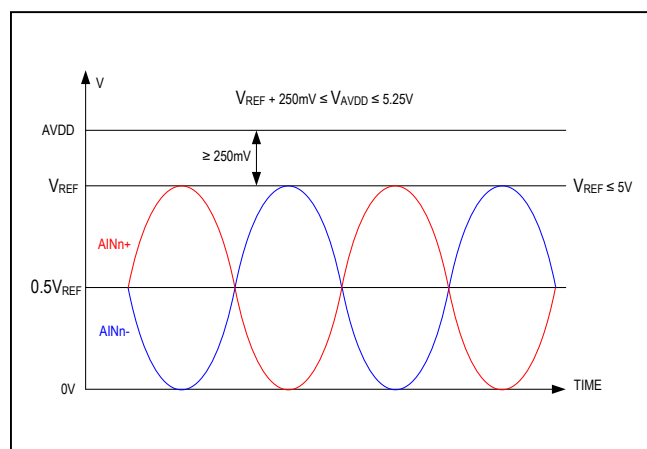

Figure 1. Input Signal Ranges
The differential analog input must be centered with respect to a common mode signal of V_{REF}/2, with a tolerance of ±100mV. The reference voltage can range from 2.5V to 250mV below the reference supply AVDD. This will guarantee adequate headroom for the internal reference buffers. Figure 1 illustrates signal ranges for AINn+/AINn-, reference voltage V_{REF} and reference supply voltage AVDD.
Figure 1: Transfer characteristic of the AD7714. The graph shows the Output Code (Two's Complement) versus the Differential Analog Input (LSB). The output code ranges from 100...000 to 011...111. The input range is from -2^N to 2^N , with a full-scale range of $2 \times V_{REF}$. The graph shows a staircase-like transfer function with a break in the middle. Key points include the Zero Scale ($V_{IN} = -V_{REF}$) and Full Scale (FS) ($V_{IN} = +V_{REF}$). The formula for LSB is given as $LSB = \frac{2 \times V_{REF}}{2^N}$, with $N = 12/14/16$. A note indicates $FS - 1.5 \times LSB$.